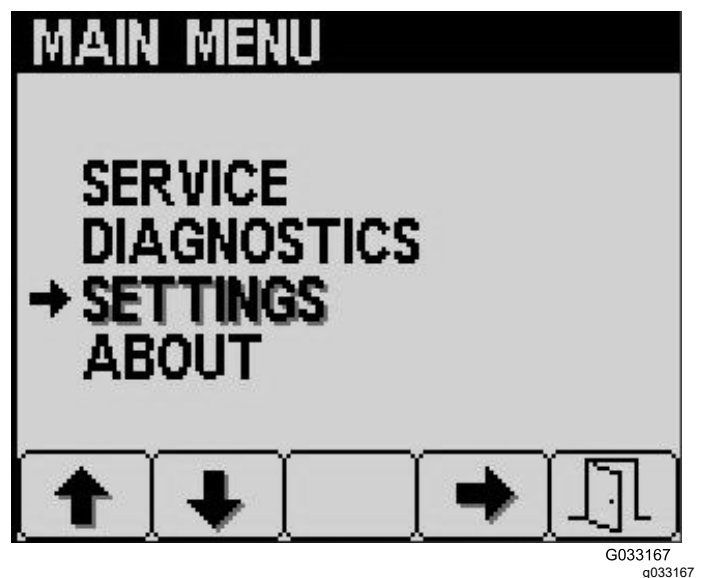
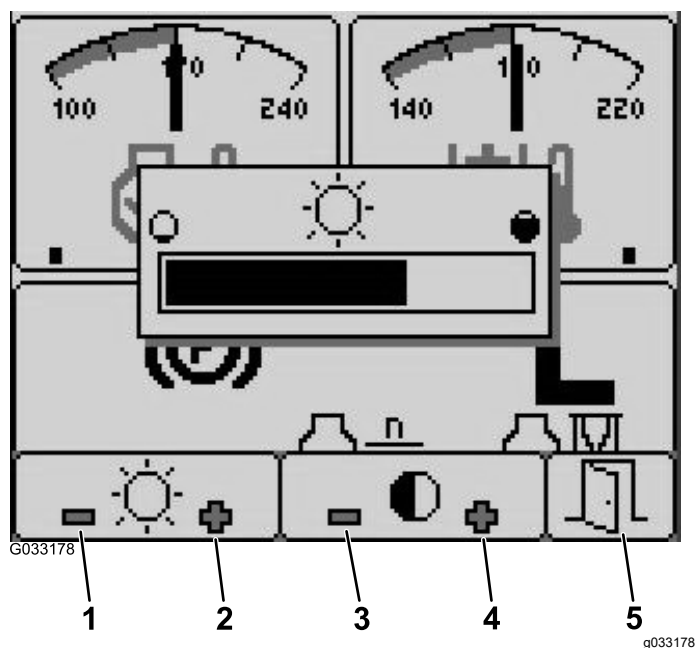

Figure 18
Figure 19
- Scroll up or down to SERVICE in the main menu (Figure 18).
8. Exit the menu by selecting the EXIT (door) button (Figure 18 or Figure 19).
1. From the startup screen, press button 5 to access the brightness/contrast pop-up-menu bar (Figure 19).
2. Press button 1 to decrease brightness, button 2 to increase brightness, button 3 to decrease contrast, and button 4 to increase contrast (Figure 19).
3. When you have set your brightness/contrast, press button 5 to exit (Figure 19).